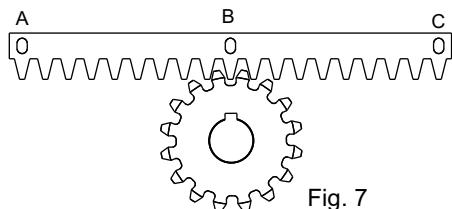
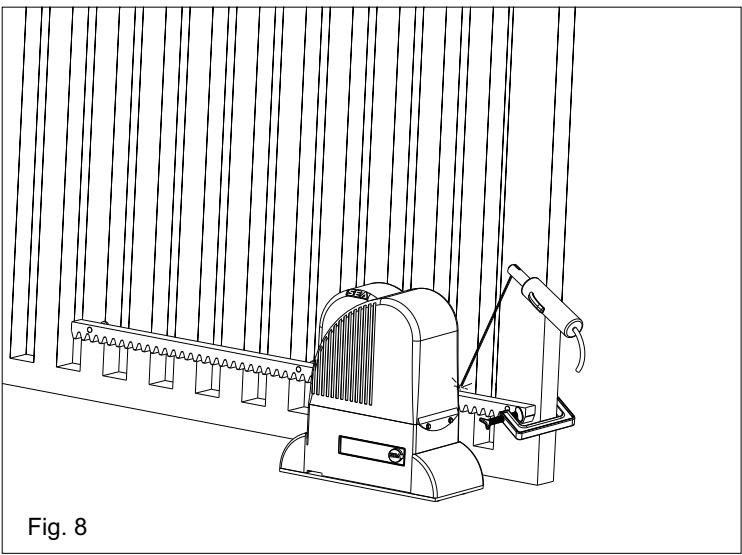

Fig. 7
Fig. 8
**5.3.** Lean the gear rack element on the toothed pinion of the motor so that it results parallel to the ground slideway of the gate, place it as shown in Fig. 7 and electrically weld the central pawl B to the gate structure (Fig. 8).